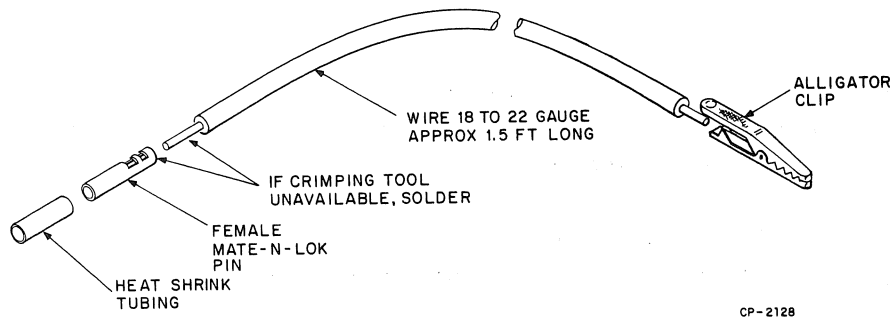

Figure 5-62 Jumper Wires – 2 Required
1. Jumper wires (Figure 5-62) (Two required).
3. Use jumpers (Figure 5-62) to connect motor leads to the 5-volt supply. To prevent blowing the 5-volt fuse (F6, 6 Amps, fast-blow), disconnect the red 5-volt supply wires from the Jones strip just beneath the vacuum motor assembly and clip one of the jumper wires to it. Clip the other jumper wire to the ground lead. Disconnect the 15-volt supply wires also, and push them out of the way.